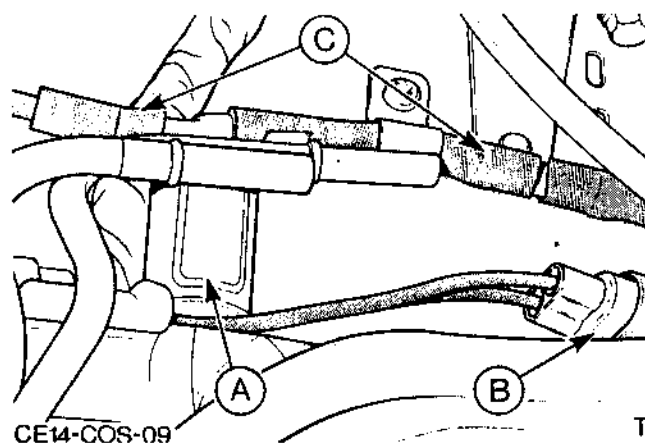

Fig.2. A - Canister purge solenoid
5. Reconnect multiplug, ensuring locking tab 'snaps' into position, refer to Fig.2.